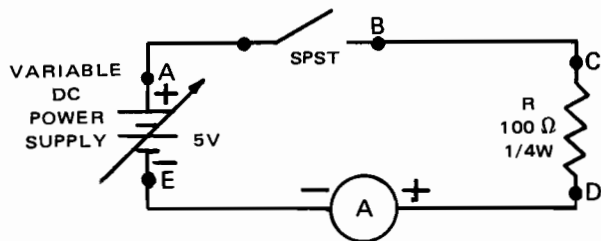

Fig. 4-1-2
8. Turn off circuit switch and remove lamp from circuit. In place of lamp, insert a 100 ohm 1/4 watt resistor. Fig. 4-1-2 shows a schematic diagram of the modified circuit.
3. If voltage in Fig. 4-1-2 was increased to 8 V dc, how would it alter the circuit? _____